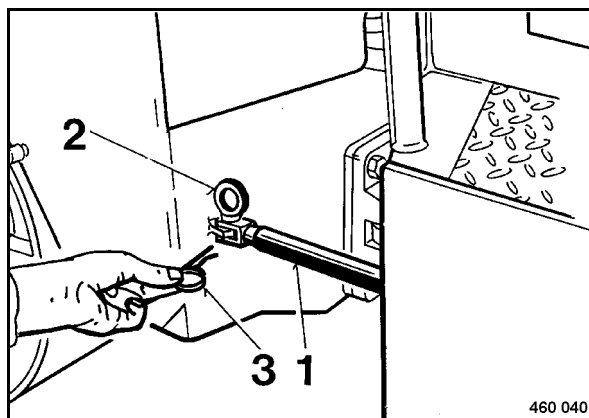

Fig. 54
- After driving the machine on the transport vehicle swing the articulation lock 1 (Fig. 54) out of its receptacle to the front. Insert the pin (2) and secure it with the cotter pin (3).